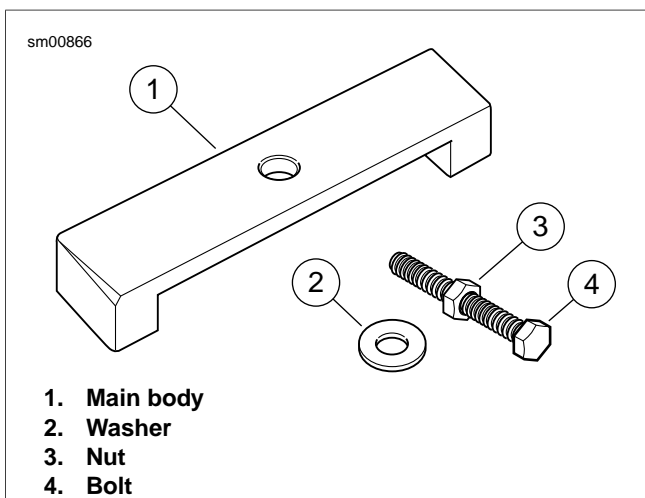

Figure 4-31. Fuel Pump Puller
11. See Figure 4-31. Assemble fuel pump puller.
- b. Thread bolt assembly into hole in main body (1).